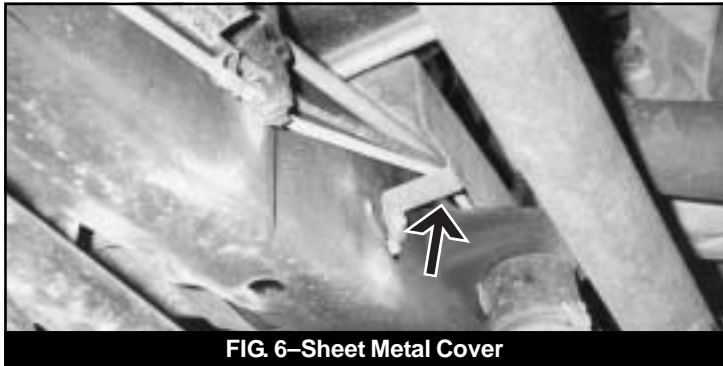

FIG. 6—Sheet Metal Cover
18. There is a sheet metal cover (if equipped) on the inside of the driver's side frame rail that covers fuel and brake lines going to the rear of the vehicle (Fig. 6). Remove the four bolts that mount the cover to the frame. Remove the cover from vehicle. The cover will be modified and reinstalled later.